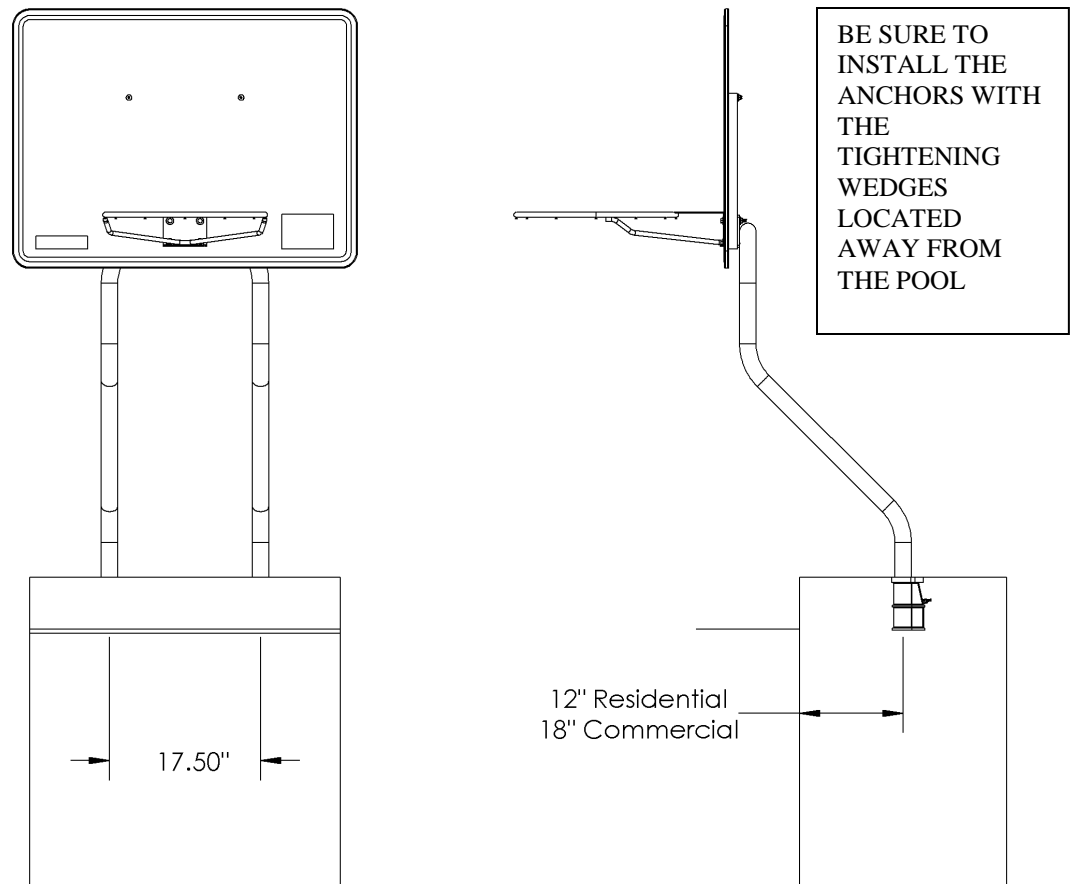

Fig. 4
4. Basketball units are to be anchored to the deck using 6 inch deep AS-100P anchor sockets. Install the anchors in the pool deck 17-1/2 inches apart on center and 12 back for residential versions or 18 inches back for commercial versions, shown in **FIGURE 4**. Properly bond the anchor sockets using the attached bonding screw and the appropriate bond wire per local codes. Allow concrete to cure before installing the basketball unit.